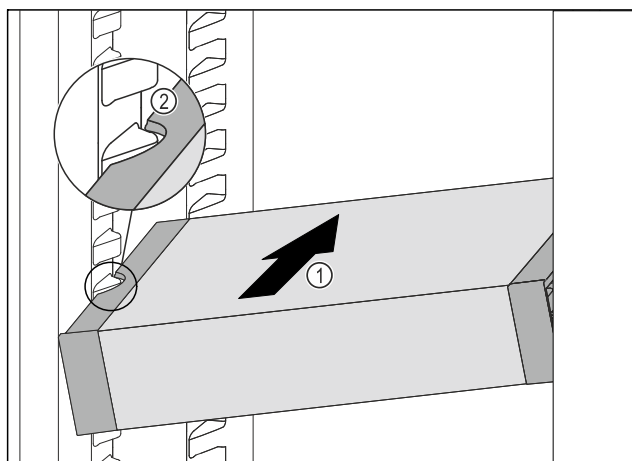

Fig. 141
- Insert the VarioSafe into the fridge section at an angle Fig. 141 (1) until the recesses in the side Fig. 141 (2) of the VarioSafe are at the level of the support rib in the fridge section.